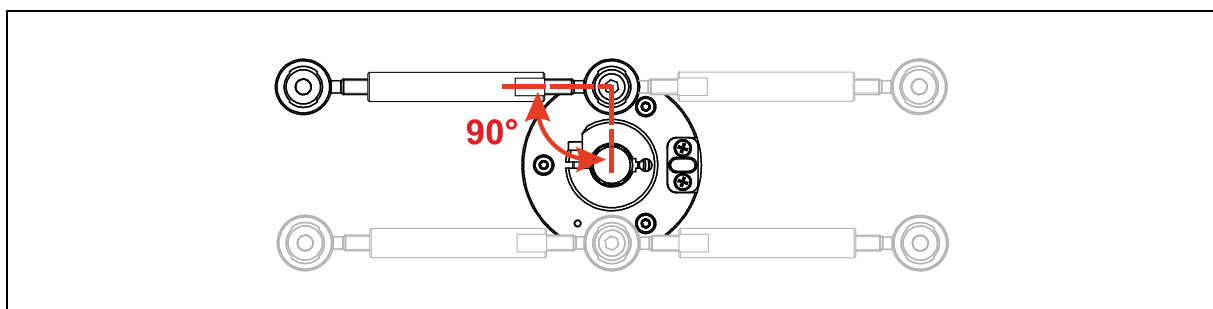

Figure 8: Joint head rod – mounting variants
- For maximum support of the measuring system, the joint head rod must be mounted at a 90° angle to the line connecting the threaded hole to the center of the shaft, see Figure 8.